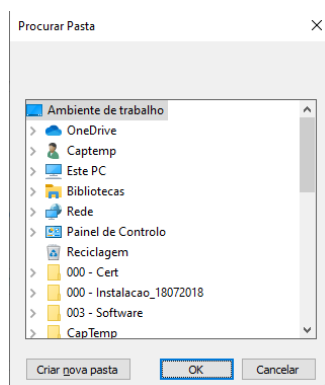

Figure 32 – Senslive Files Destination path box
- If option “Download” is selected a box will be showed to user to select the path of download (Figure 32).